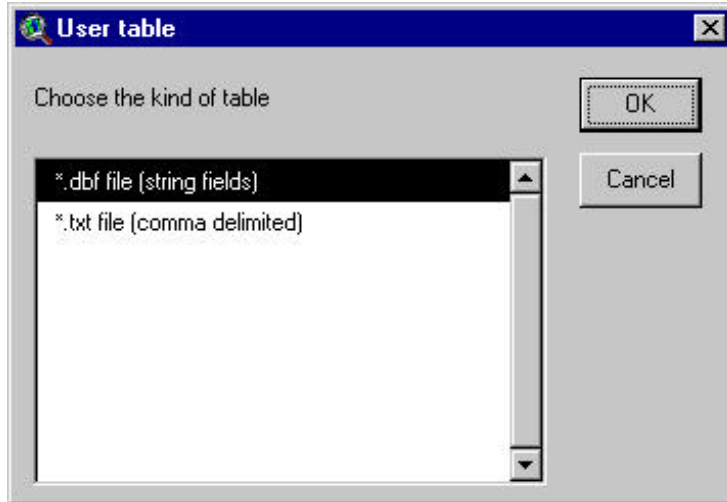

Figure 6.22
- ii. A prompt box will appear that allows the user to specify the format of the land use classification table (Figure 6.22). The land use classification table may be formatted in dBASE (.dbf) or ASCII (.txt).